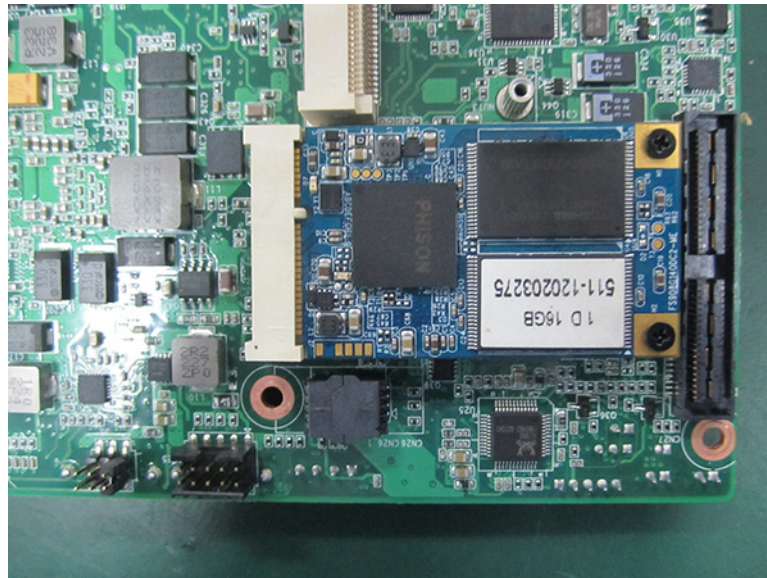

Figure 2.26
1. Insert Mini SATA card into PCIE slot, and fix it with two M2x 6. (See Fig 2.26)